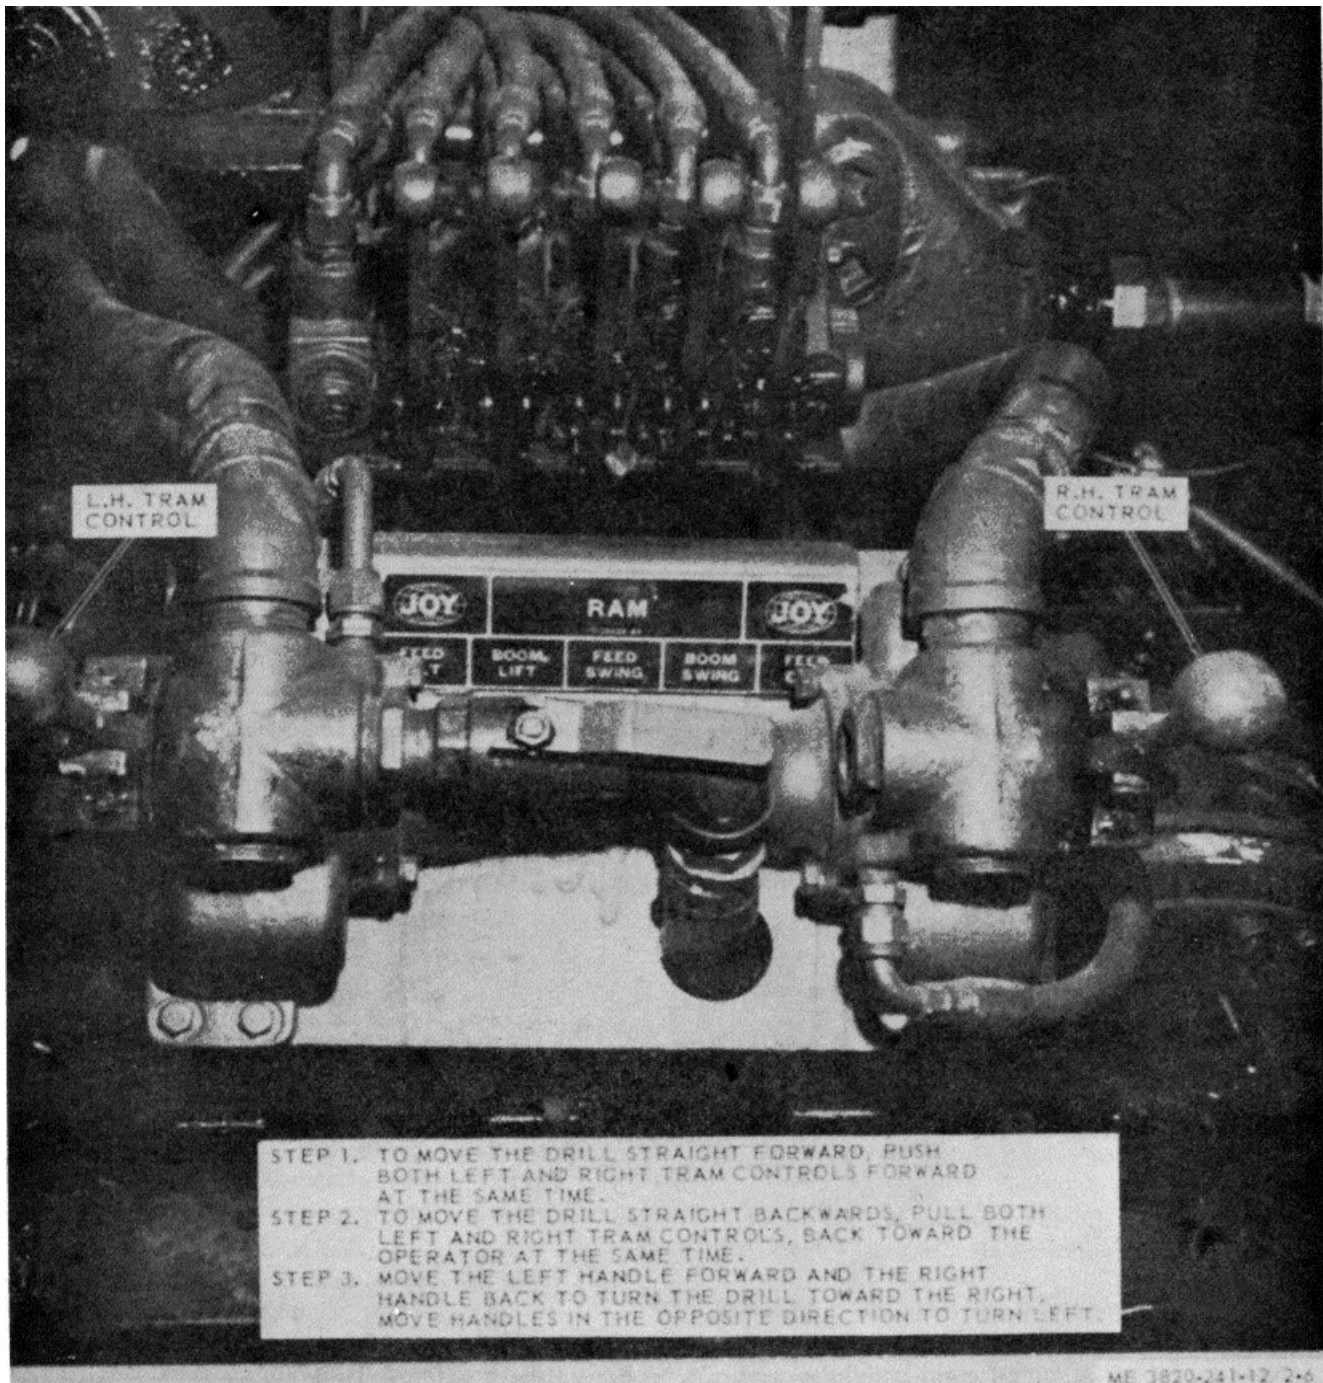

Figure 2-6. Tramming the rock drill.
(1) Refer to figure 2-6 for tramming the rock drill